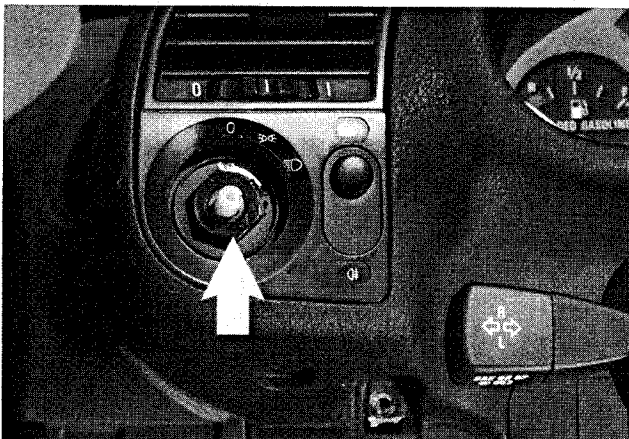

Fig. 11. Headlight switch mounting nut (arrow).
3. Remove nut mounting switch to dash insert. See Fig. 11.